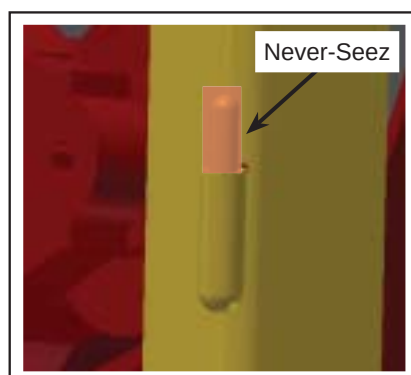

Figure 4 - Application of Never-Seez on Hinge Pin
- 1.4. Apply Never-Seez or the equivalent on both the hinge pins of hinge post. See Figure 4.